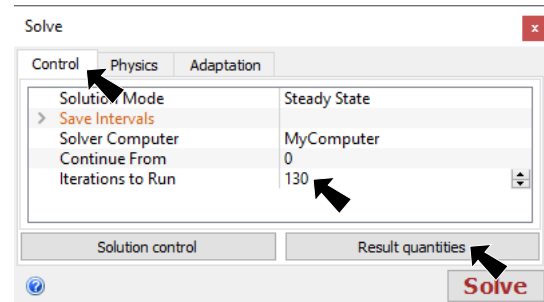

Fig. 35
Step 2. In the Solve dialog box on the **Control** tab, **Fig. 35**.